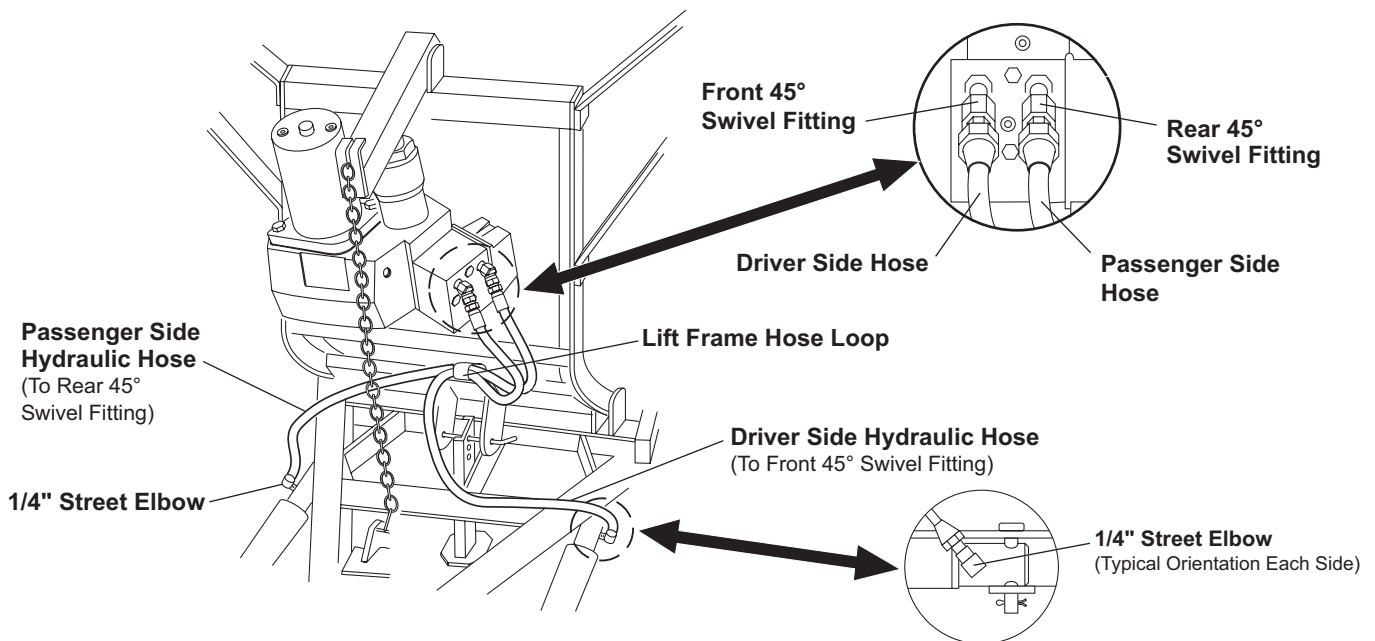

Figure 5
1. (Hoses and fittings are in the hydraulics box.) Remove top two 1/4" pipe plugs from front face of valve on hydraulic unit. Install two 45° swivel fittings into pipe plug holes. Tighten fittings so the hose connections will be straight down in line with valve body. **(See Figure 5.)**
2. Install a 1/4" street elbow into the threaded port in base end of each Hydra-Turn® ram. Tighten fittings so they are oriented 45° from vertical towards the blade. **(See Figure 5.)**